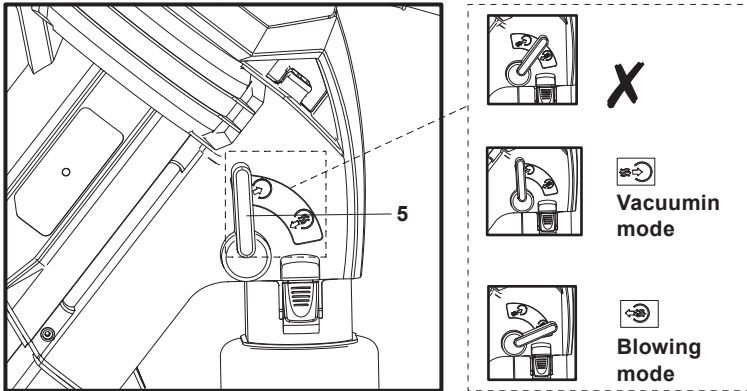

Fig. 8
Select the operating mode by moving the mode selector (5) to the respective symbol (Fig. 8).
- Move the mode selector (5) to the position  to use the product as a blower.
- Move the mode selector (5) to the position  to use the product as a vacuum.
- Always ensure the mode selector (5) locks in position. Do not use the product with the mode selector (5) in an intermediate position. You can hear a click once the lever is positioned properly.